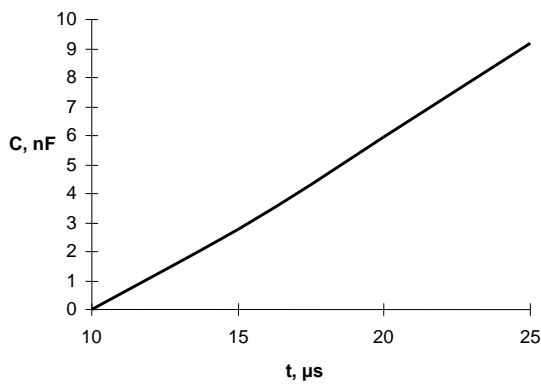

Figure 7 – Dependence of smooth emergency shutdown duration versus capacitance rating  $C_s$
**CS H1, CS H2, CS H3, CSL1, CSL2, CSL3, CSIM** – capacitors for adjustment of smooth emergency turn-off duration in emergency mode of relevant controlled transistor. Initially (initial settings at supply) capacitors are installed corresponding to smooth turn-off duration 10  $\mu$ s. Dependence of smooth emergency turn-off duration versus rating of the capacitors is shown on Figure 7.